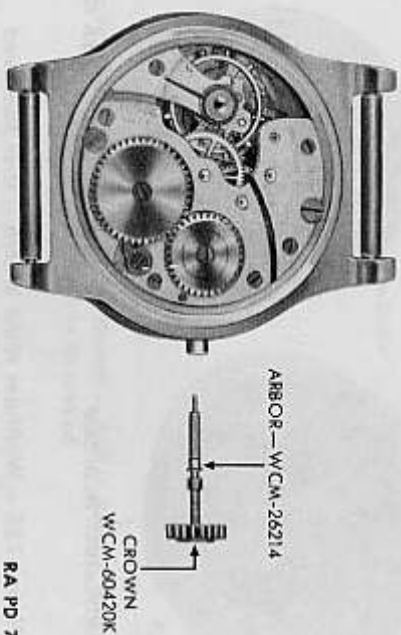

Figure 153 — Waltham Wrist Watch — Arbor and Crown Removed
- d. Remove Arbor and Crown (fig. 153). Place movement on movement block of proper size, train side up. Loosen setting lever screw until arbor can be pulled out of movement.
**m. Replace Winding Arbor and Crown (fig. 153).** Insert winding arbor into its hole in case band, slightly revolving crown in order to properly set arbor in center of clutch. Tighten setting lever until